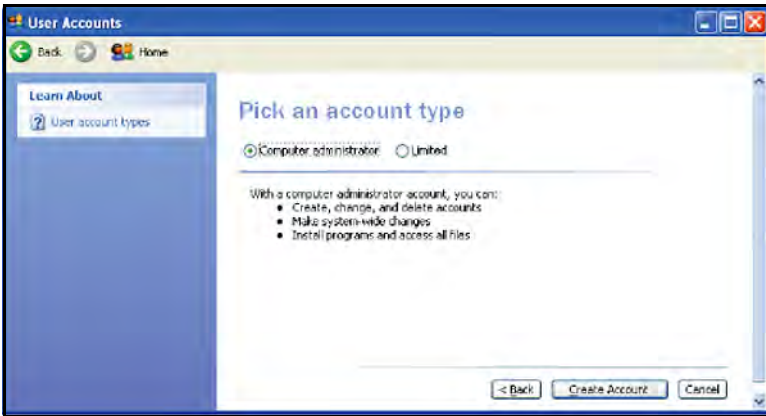

Figure 111: Account Type
4. Select an account type (see *Figure 111* below) and click Create Account.